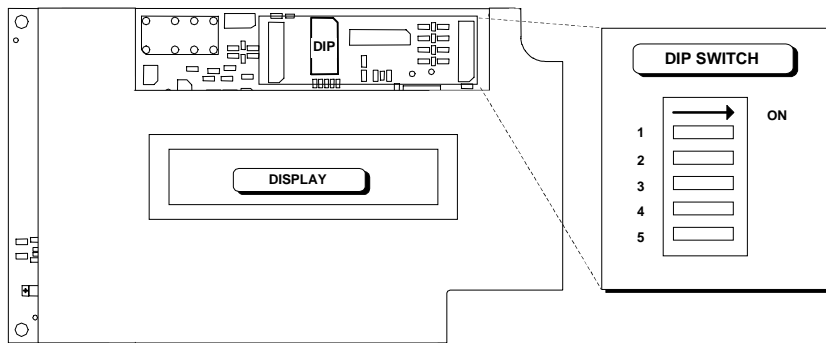

Figure 2.4 - DS8100 Multidrop Address selection
2. Position the switches as desired, referring to Figure 2.4.